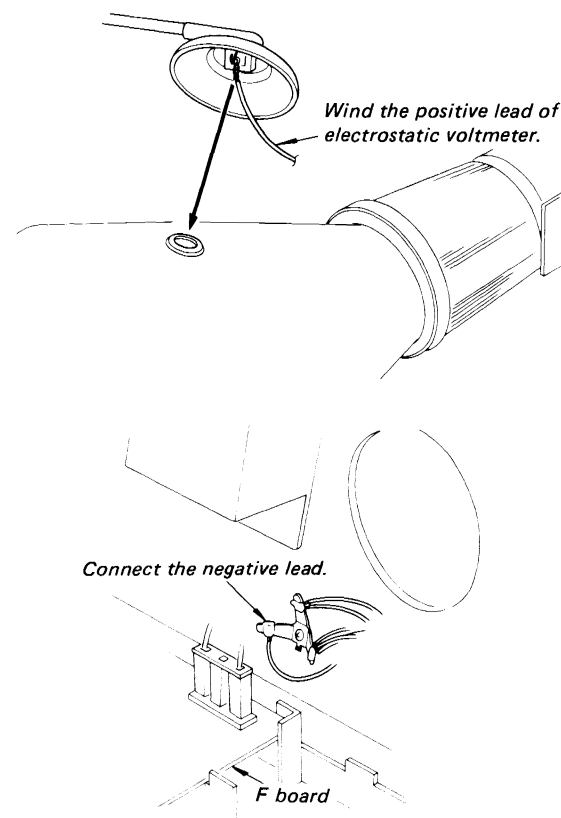

Fig. 4-1
- (1) Confirm that the POWER switch is OFF position.
- (2) Connect the positive lead of the electrostatic voltmeter to the anode of the picture tube and the negative lead to the ground lug on the chassis as shown in Fig. 4-1.
- (3) Feed in a white pattern from a color-bar/pattern generator and turn the BRIGHT and PICTURE controls fully counterclockwise. (Be sure to synchronize the picture).
- (4) Turn the POWER switch to ON and confirm that the voltage on the electrostatic voltmeter is $26.0\text{kV} \pm 300\text{V}$.
- (5) If necessary, select R815 and R816 ($\frac{1}{4}\text{W}$ carbon resistor) and repeat above steps.
- (6) Turn the POWER switch to OFF and disconnect the positive and negative leads of the electrostatic voltmeter.